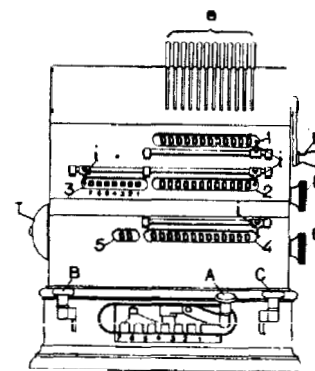

Figure 227
1 in figure 227) in which the entered value may be reexamined for accuracy. Below these is the result mechanism (2) with twelve windows, while to the left is a revolution counter (3) having seven decimal places. A little further down is an additional result mechanism (4) having thirteen places, and to the left of this is a revolution counter (5) having two places. The switch for the electric current is on the right side of the base, and on the front are keys B, A, and C—the use of which will be explained.
the introduction. Key C serves for transferring an item from the first to the second result mechanism. Crank M is used for clearing the checking windows, while drum buttons D and E are for clearing the first and second result and revolution counter mechanisms. The machine has no externally visible carriage; the pinwheels and revolution counter, which are mounted upon one shaft, one moved to different digit positions by lever A, which fits into seven gaps shown in the lower part of figure 227. The price of the machine was originally 1250 francs and later 1500 francs (prewar prices).